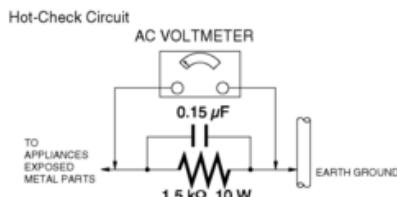

Figure. 1
1.3 Leakage Current Hot Check (See Figure. 1)
2. Connect a $1.5\text{ k}\Omega$, 10 W resistor, in parallel with a $0.15\text{ }\mu\text{F}$ capacitor, between each exposed metallic part on the set and a good earth ground, as shown in Figure. 1.